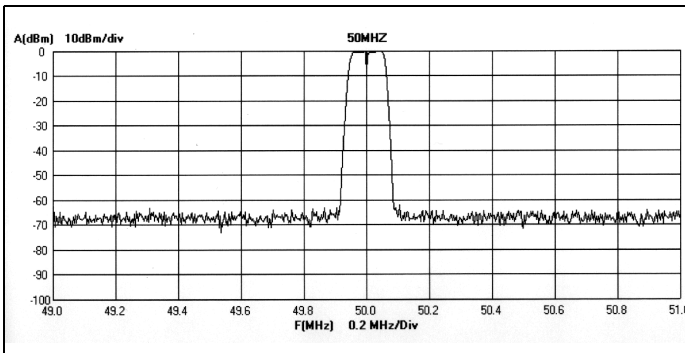

Fig 16: Setting the 0dB level with a 50MHz signal from a signal generator.
- Enter “40” for F1 and “60” for F2 and click “Run” for the Spectrum analyser, the display will look like Fig 16